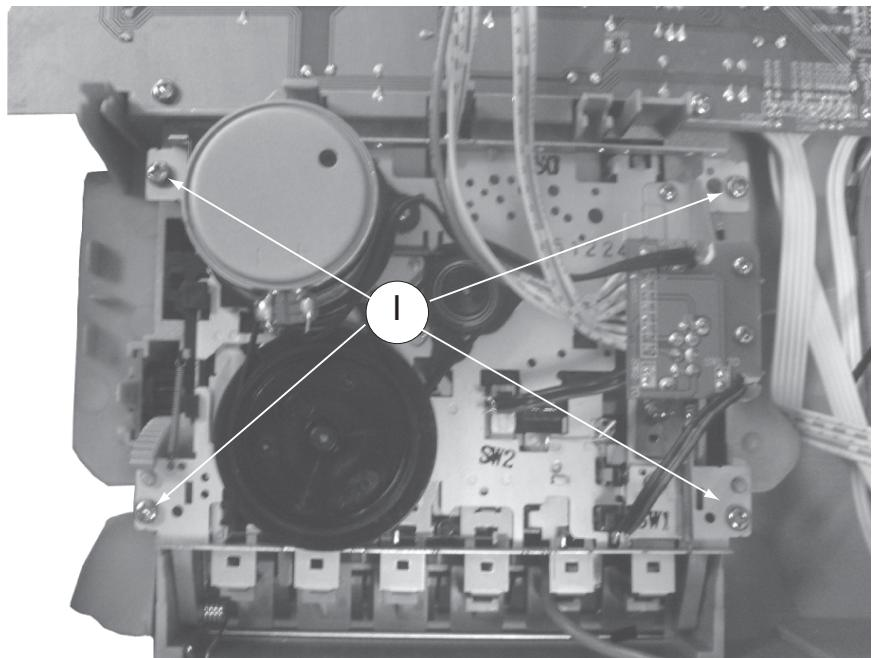

Figure 13
- 4) Loosen 4 screws 'I' to remove the Cassette Module figure 13.